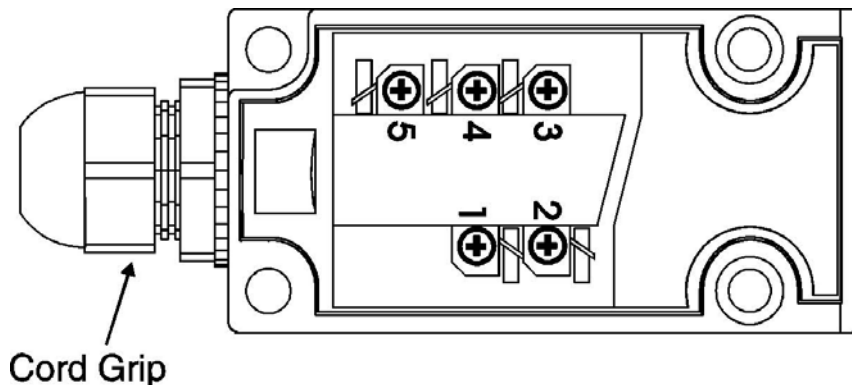

Figure 3-1. C827 terminal screws
Power and serial communications connections for the C827 are made at terminal screws located on the interface block of the C827 enclosure. Your cable should be wired to these terminals according to the pinouts given in Table 3-1 and shown in Figure 3-1.
3. Loosen the cord grip, feed the cable through the cord grip and attach the wires to the terminal screws shown in Figure 3-1. Tighten the cord grip to seal the cable. Note that you must use a cable of sufficient diameter to properly seal with the cord grip. The recommended minimum O.D. is .125 inches (3.2 mm).